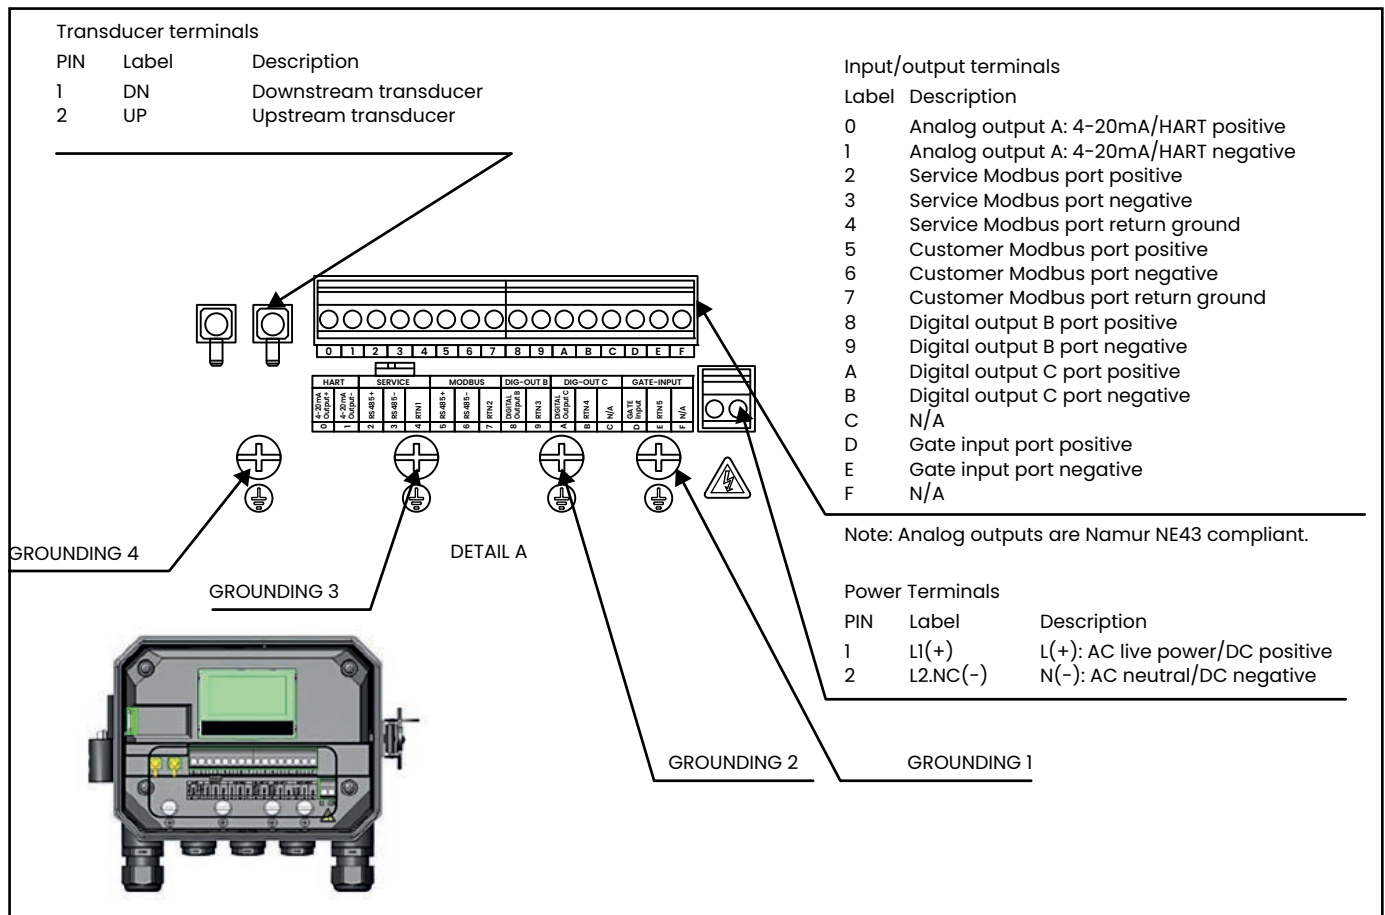
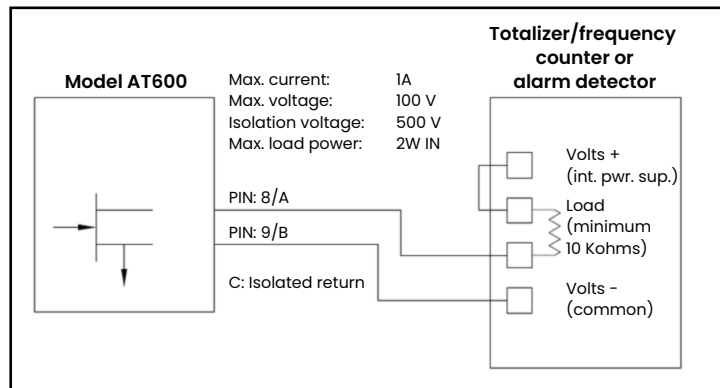
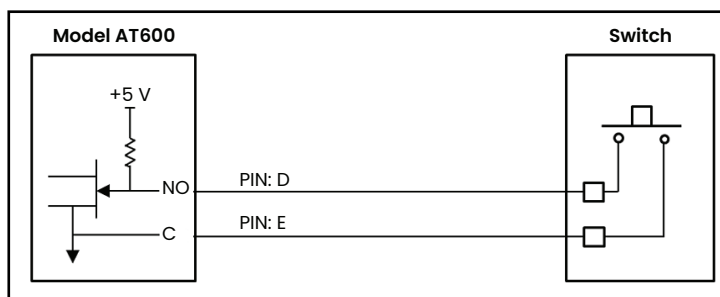

Figure 23: Wiring diagram
Figure 28: Totalizer/frequency/alarm output wiring
Figure 29: Gate input wiring
2. Connect the power and transducer cables to the AT600, as shown in *Figure 23 on page 19*
This section includes instructions for making all the necessary electrical connections to the AT600 flow meter. Refer to *Figure 23* below for the complete wiring diagram of the meter.
Refer to *Figure 23 on page 19* to locate the terminal block and connect the line power as follows:
2. Connect the ground lead to the internal ground connection (GROUNDING 1) located on the bottom panel of the electronics enclosure (See *Figure 23 on page 19*).
3. Connect the neutral AC lead (or the negative – DC lead) to L2/N(–) and the AC line lead (or the positive DC lead) to L1(+), as shown in *Figure 23 on page 19*.
2. Connect the cable connector with yellow DN jacket on the cable to the DN terminal, and connect cable connector with white UP jacket on the cable to the UP terminal, as shown in *Figure 23* on page 19.
3. Refer to *Figure 23 on page 19* for the location of terminal block I/O, and wire the terminal block as shown above.
To wire the Modbus RS485 serial port, refer to *Figure 23 on page 19* above and complete the following steps:
The AT600 can accommodate up to two digital outputs. Each of these outputs can be configured as either a totalizer, frequency or alarm output (see “*Programming digital communications*” on page 53 for instructions). Each totalizer/frequency/alarm output requires a twisted pair cable. Wire the terminal block as shown in Figure 23 on page 19 and Figure 28 below.
To wire the Gate input, refer to Figure 23 on page 19 and Figure 29 below and complete the following steps: